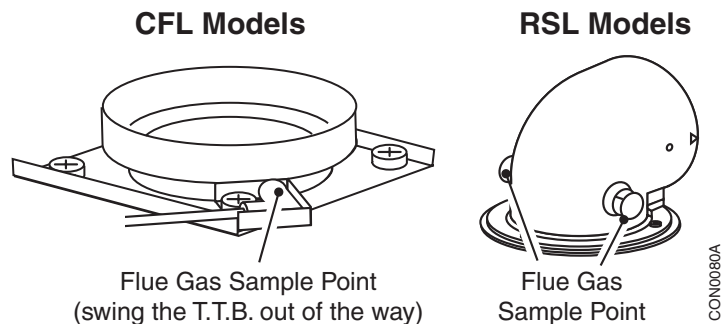

Fig. 24
2. Re-fit the front cover, plinth, top cover and controls panel (see Fig. 24, page 26). ☐
Loosen the screw securing the Products Discharge Safety Device (TTB) and swing it away from the flue gas sampling opening, (see Fig. 24). After operating the appliance for 5 minutes take a lighted smoke match and hold it at the entry of the opening. *The majority of the smoke should be drawn into the flue.* ☐